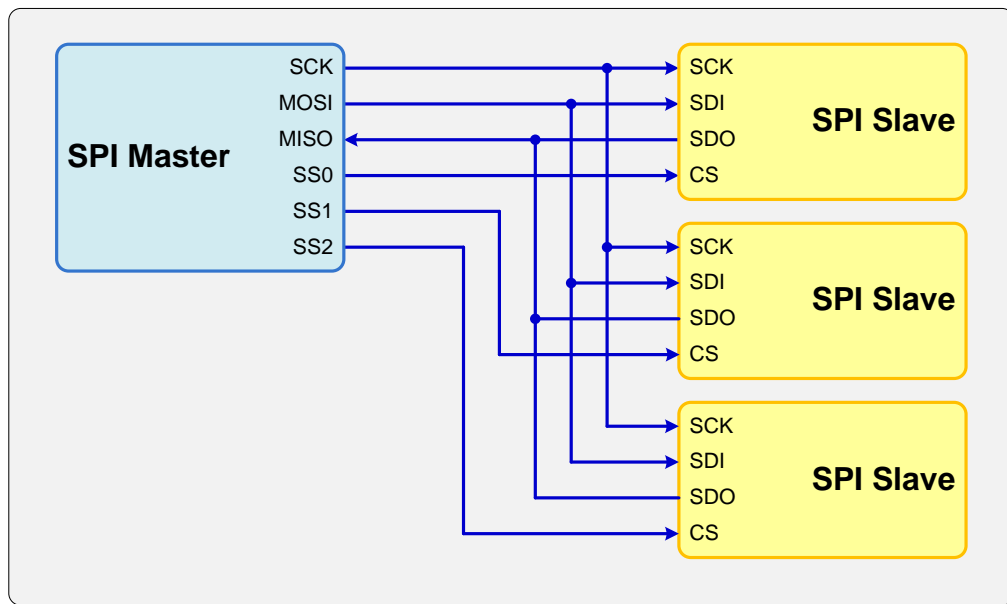

Figure 1. 4-wire SPI bus configuration with multiple slaves
As shown in Figure 1, standard SPI masters communicate with slaves using the serial clock (SCK), Master Out Slave In (MOSI), Master In Slave Out (MISO), and Slave Select (SS) lines. The SCK, MOSI, and MISO signals can be shared by slaves while each slave has a unique SS line.